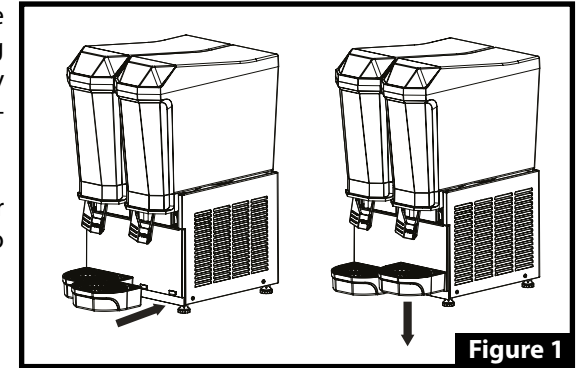

Figure 1
2. Mount the drip trays in the bowls as shown in "Figure 1".